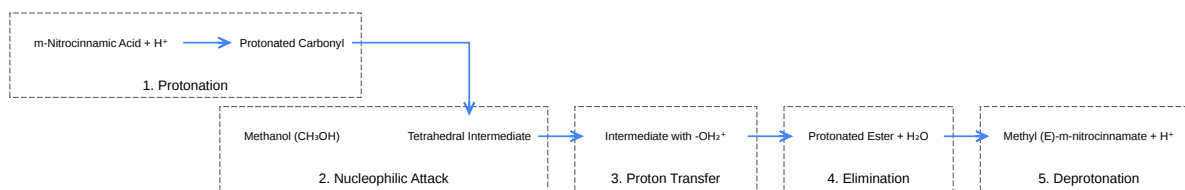

Figure 1: Fischer Esterification Mechanism
Caption: Figure 1: The acid-catalyzed mechanism for the synthesis of **Methyl (E)-m-nitrocinnamate**.